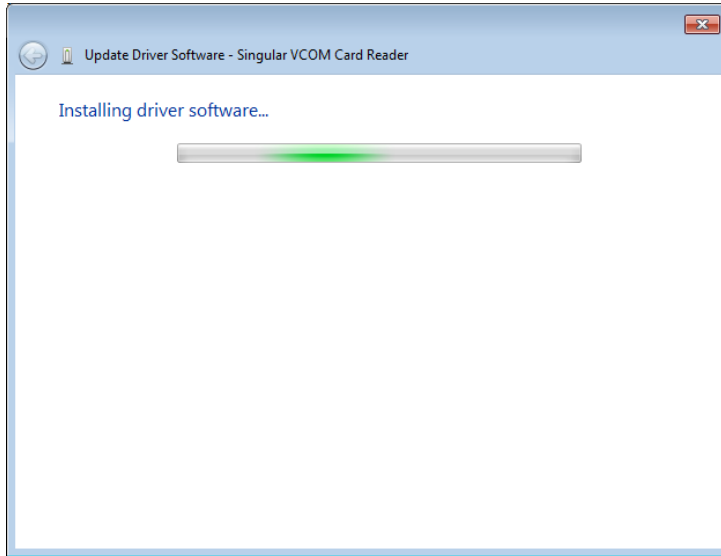

Figure 5-25: Installing Driver Window
Step 4: The following window (**Figure 5-25**) appears as the driver is installed.